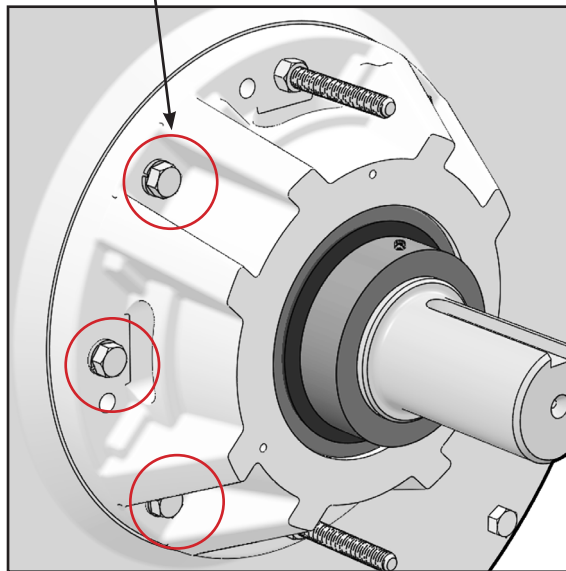

FIGURE 19
26. Once the cartridge is close to the endplate install bolts on the six available holes, drawing the cartridge onto the endplate (Figure 19). Alternately tightening 1/4 turn at a time.